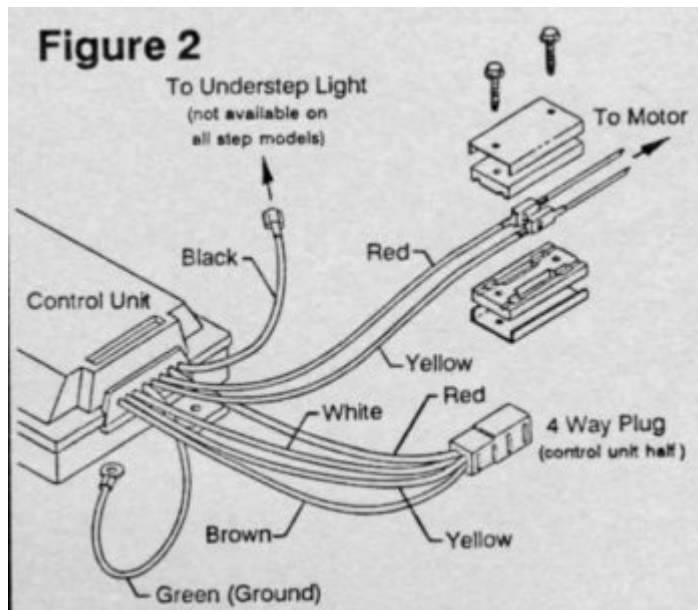

Figure2
To further determine that the control unit is not shutting off, remove the two (2) screws from the connector on the motor leads between the motor and control unit. Remove the seal assembly. (See Figure 2) Place a voltmeter between the Red and Yellow motor leads then reconnect the four way plug. Turn the power switch on. If any voltage is read, the control unit is not shutting off and may be defective. When doing this test, switch the voltmeter leads back and forth between the Red and Yellow motor leads to be sure that no voltage reading is shown.